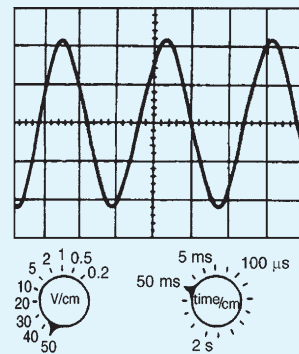

Figure 10.23
3. For the sinusoidal waveform shown in Fig. 10.23, determine (a) its frequency, (b) the peak-to-peak voltage, (c) the r.m.s. voltage.